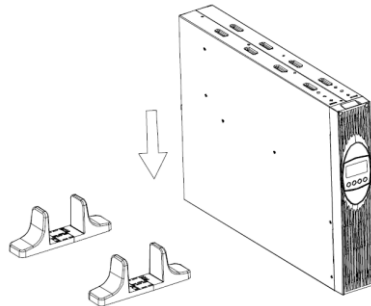

Figure 4: Installation as tower
1. Push the UPS system vertically into both bases (see Figure 4). Pay attention to the largest possible distance between the bases to guarantee high stability.